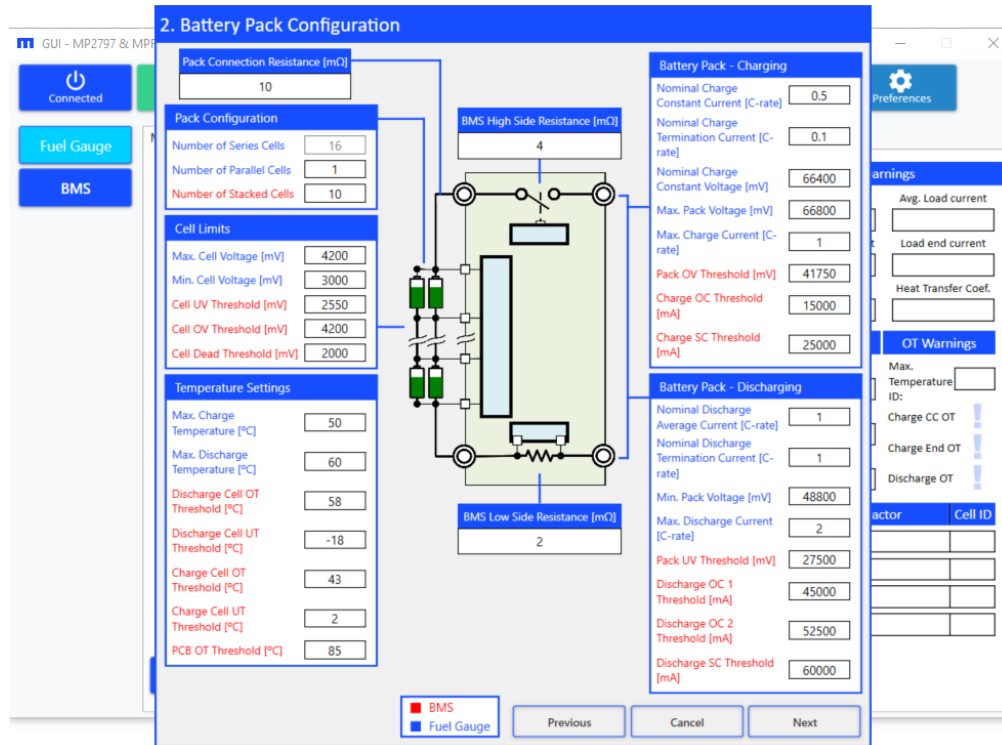

Figure 34: Configuration Wizard 2 – Battery Pack Configuration
9. Use the Battery Pack Configuration window to select the most relevant parameters for the fuel gauge (denoted in blue) and the BMS protection (denoted in red) (se Figure 34 on page 28).